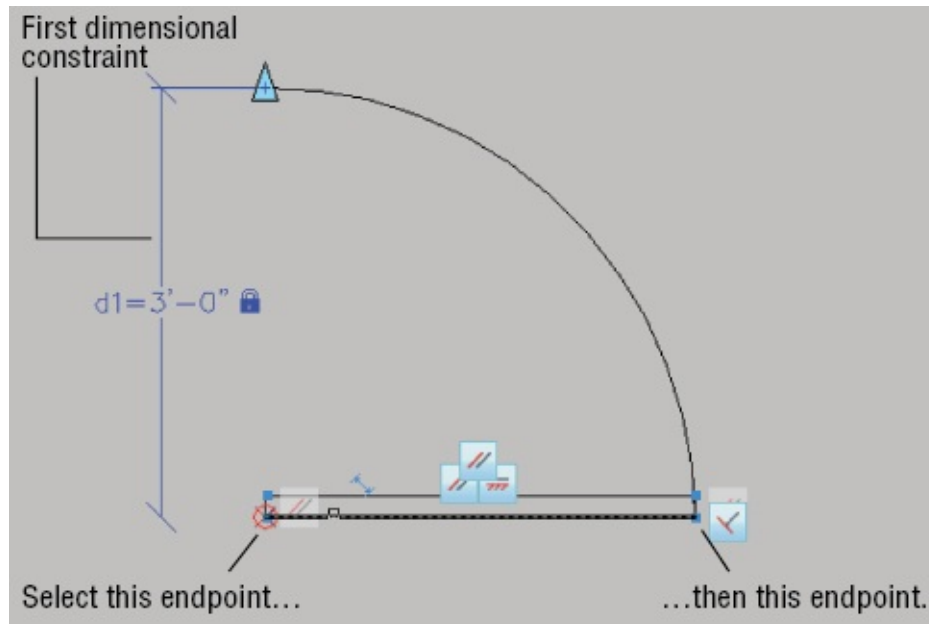

FIGURE 17.13 The door with the opening and door constraints added
2. Select the left end of the bottom horizontal line again, as you did in the previous exercise (see Figure 17.13).
3. Select the right end of the bottom horizontal line, as shown in Figure 17.13.